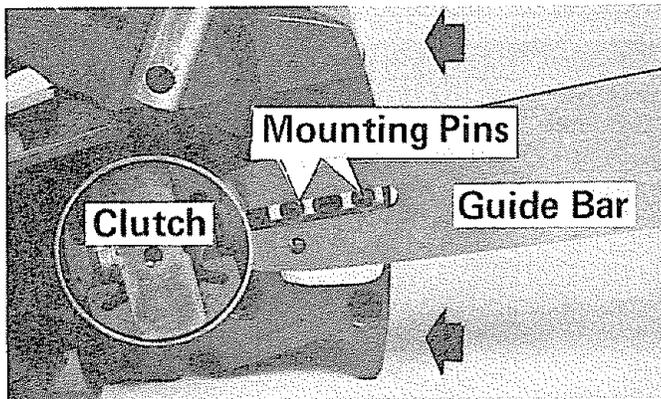
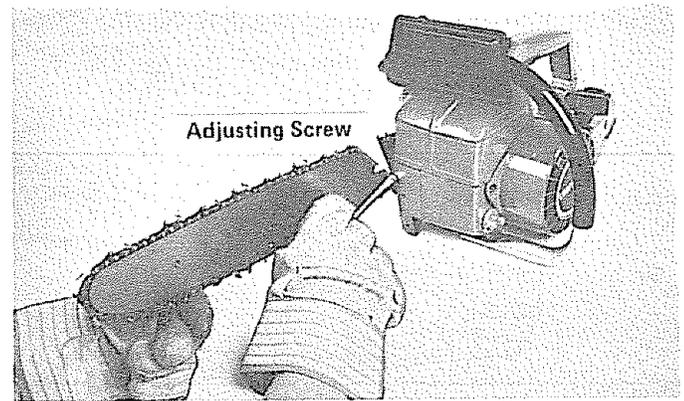

Figure 2
Figure 5
2. Setting the adjusting pin all the way to the rear (Figure 5), place the guide bar slot over the guide bar studs and slide it to the rear (Figure 2)
5. Holding the tip of the bar up (Figure 5) turn the adjusting screw clockwise until the chain is snug on the bar.